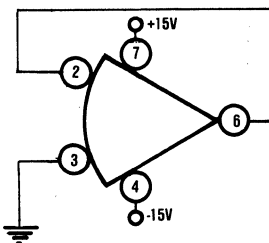

FIGURE 5. Test Circuit, Burn-in and Operating Life Test.
- (1) Test condition B
- (2) Test circuit is Figure 5 herein
- (3) T_A = +125°C minimum
- (4) Test duration is 160 hours minimum
- (1) Test condition D
- (3) $T_A = +125^\circ\text{C}$ minimum
- (4) Test duration is 1000 hours minimum